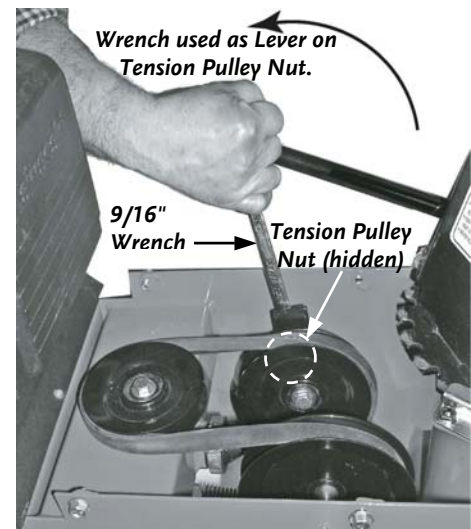
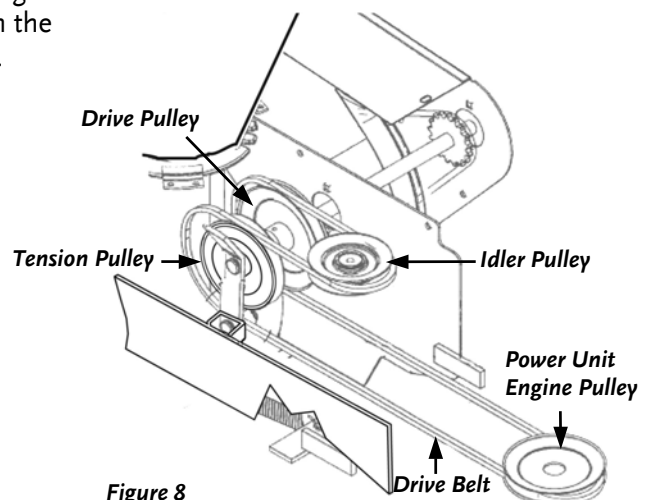

Figure 7
Figure 8
6. Using a 9/16" Box Wrench on the Tension Pulley Nut (**Figure 7**), pull on the Wrench to release the tension and install the Belt on the Idler Pulley (**Figure 8**). Make sure that the V-belt is not twisted and fits into the V-groove on the Pulley.
7. Route the V-belt around the Drive Pulley, Tension Pulley, and Idler Pulley (**Figure 8**) and then ease the Tension Pulley back into position with the Wrench.
3. Using a 9/16" Box Wrench on the Tension Pulley Nut (**Figure 7** on page 13), pull on the Wrench to release the tension and remove the Belt from the Power Unit Engine Pulley (**Figure 8** on page 13).